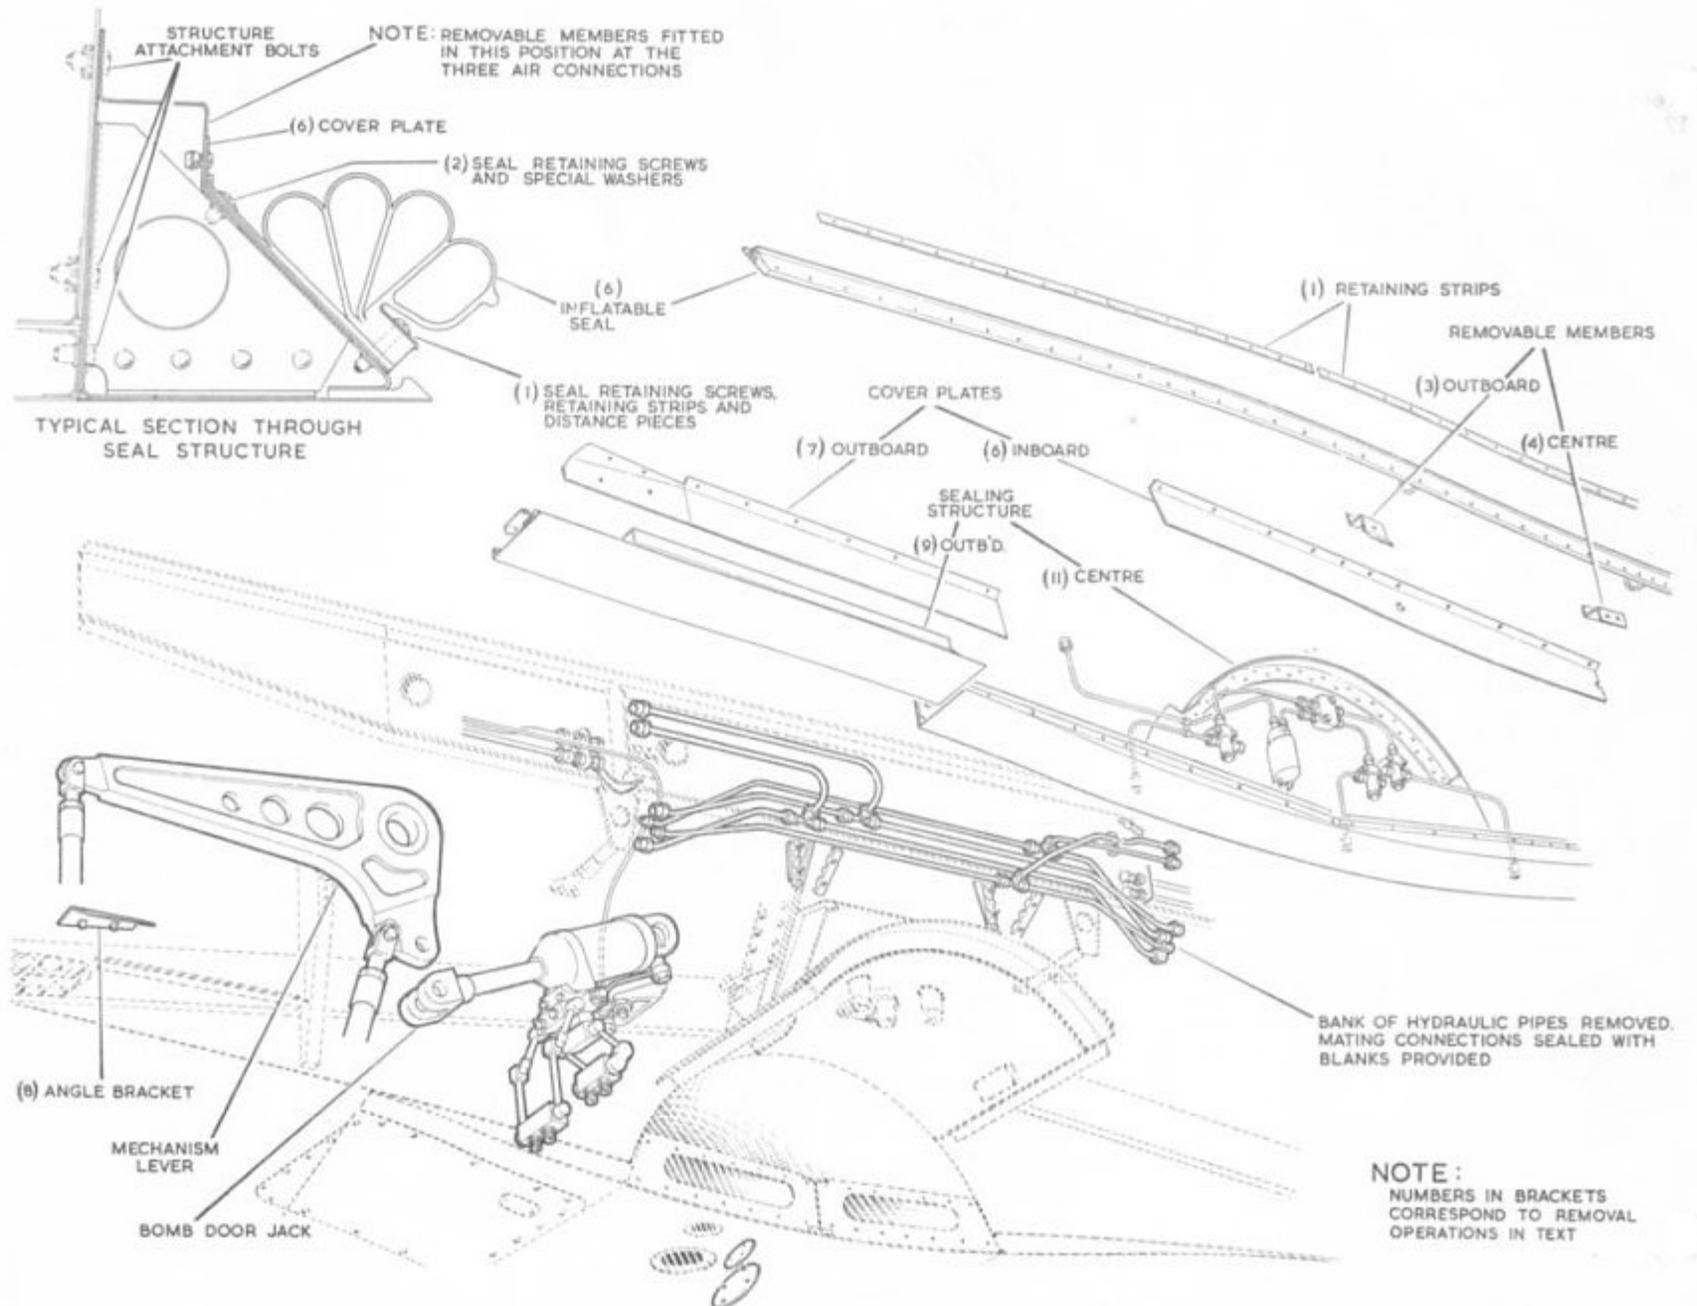

Fig. 4. Removal of components from front spar.
12. The bomb door seal and sealing structure are removed from the front spar as shown in fig.4, together with the front fairing from beneath No.2 tank bay. To remove the seal and structure:-
15. The bomb door jacks, mechanism levers and the interconnecting hydraulic pipes are removed from the front and rear spars as shown in figs.4 and 6. To remove these components from the front spar:-